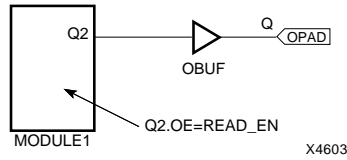

Figure 2-8 Controlling Three-state Output Using a Behavioral Module
3. In Viewdraw, open a symbol window and create a new symbol named `regxor` as shown in Figure 2-8. The symbol has three input pins and one output pin corresponding to the pins defined in the ABEL equation file.
If you use a behavioral module in your schematic and connect one of its outputs to an output buffer like OBUF, you can enable and disable the device output pin using a three-state control equation in the behavioral module, as shown in Figure 2-8.